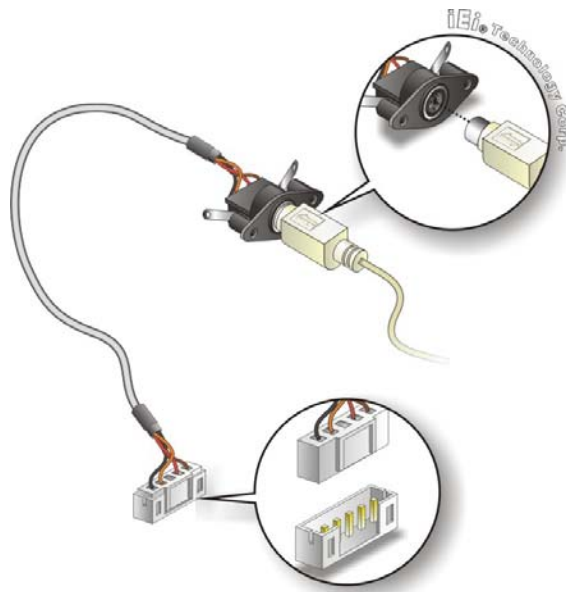

Figure 5-21: Keyboard/mouse Cable Connection
- Step 2: Align the connectors.** Correctly align pin 1 on the cable connector with pin 1 on the PCIE-9452 keyboard or mouse connector. See **Figure 5-21**.
- Step 3: Insert the cable connectors** Once the cable connector is properly aligned with the keyboard/mouse connector on the PCIE-9452, connect the cable connector to the onboard connectors. See **Figure 5-21**.